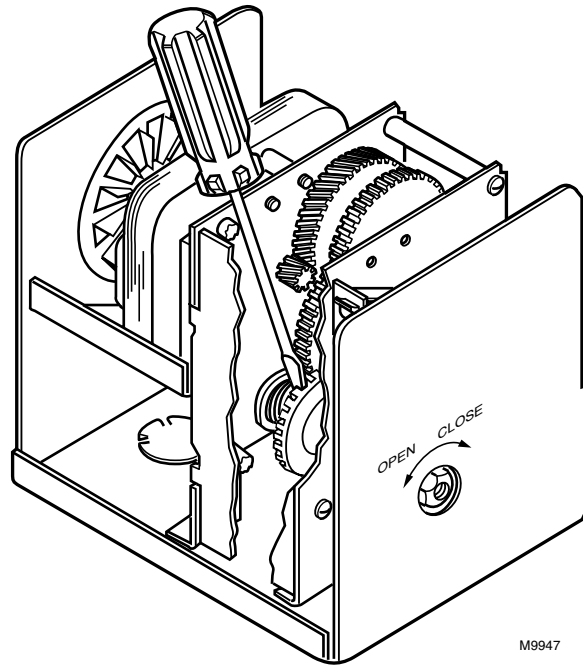

Fig. 10. Using screwdriver to adjust auxiliary switch cam.
- 3 Insert a narrow bladed common-point screwdriver in a slot in the switch cam (white plastic) located near the center of the motor. Refer to Fig. 10. Each slot in the cam equals approximately 20 degrees of motor rotation.